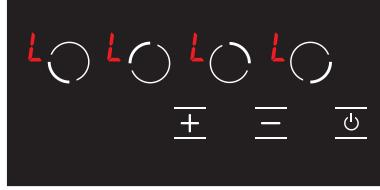

Figure 17
1. The icon is displayed on all displays when the stove is on and the child lock is active. (see Fig. 17) The and icons are displayed alternatively if any hob is hot. You may turn the stove on or off with the key only.